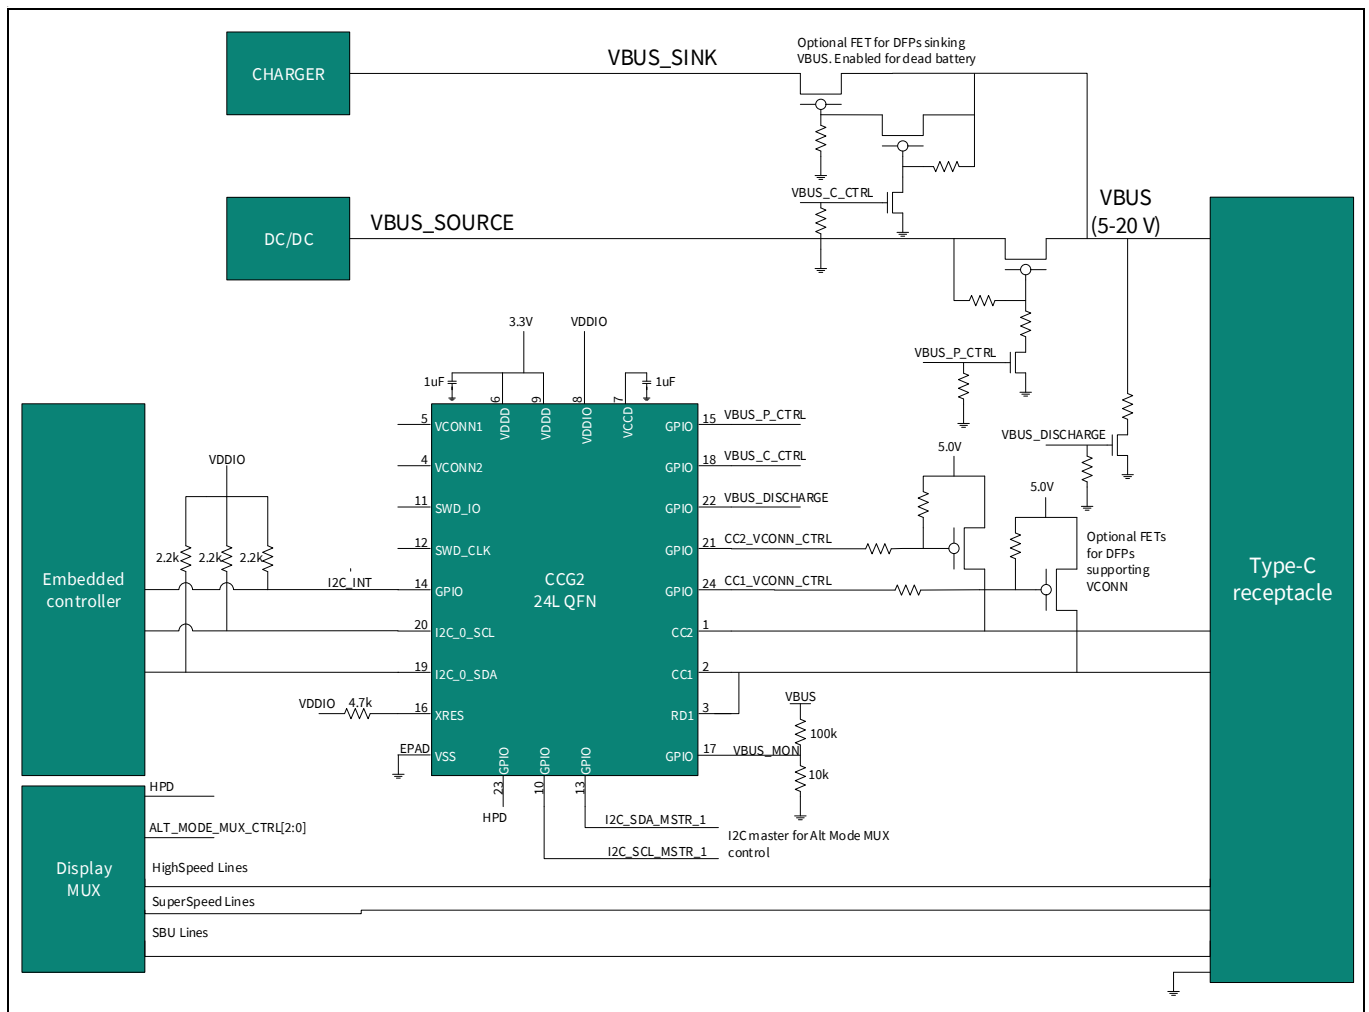

Figure 14 Dual role port (DRP) application (not recommended for new designs)
Figure 14 shows a Notebook DRP application diagram using a CCG2 device. The Type-C port can be used as a power provider or a power consumer. The CCG2 device communicates with the embedded controller (EC) over I²C. It also controls the Data MUX to route the High Speed signals either to the USB chipset (during Normal mode) or the DisplayPort Chipset (during Alternate mode). The SBU lines, SuperSpeed and HighSpeed lines are routed directly from the Display MUX of the notebook to the Type-C receptacle.